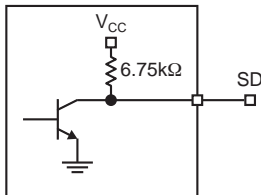

Figure 4. SD Output Structure
The SY88933V generates a chatter-free SD open-collector TTL output with internal 6.75kΩ pullup resistor as shown in Figure 4. SD is used to determine that the input amplitude is large enough to be considered a valid input. SD asserts high if the input amplitude rises above the threshold set by  $\text{SD}_{\text{LVL}}$  and deasserts low otherwise. SD can be fed back to the enable (EN) input to maintain output stability under a loss of signal condition. EN deasserts the true output signal without removing the input signals. Typically, 4.6dB SD hysteresis is provided to prevent chattering.